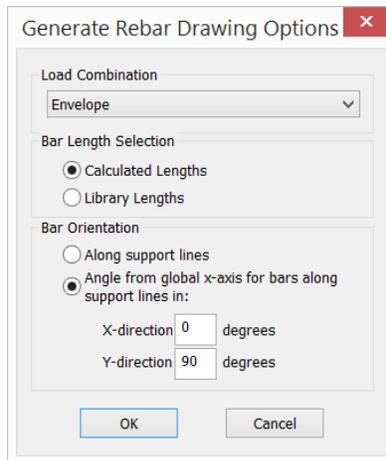

FIGURE 6.8-11 GENERATE REBAR DRAWING OPTIONS
- Once the design of sections is complete, use the menu item **Floor Design | Rebar | Calculated Rebar Plan**  to display the rebar required to meet demand for serviceability, strength or envelope. The dialog box as shown in **Figure 6.8-11** will be displayed.
- The user can select the any of the load combinations defined in the model to view rebar for. Note that when the ACI318 code is selected, no rebar will be generated for serviceability conditions as the code waives temperature and shrinkage reinforcement for soil supported slabs. You may choose the **Bar Length Selection** and the **Bar Orientation**, and then click **OK**. If the orientation of the bars is **Along support lines** the reinforcing is aligned parallel to the support lines even if they are not in the X-Y directions. The selection of an angle generates rebar layouts for those directions. The **Dynamic Rebar Module** calculates the required reinforcement for the direction selected. For this tutorial, specify **Library Length** and to have desirable rebar length and bar orientation along global X and Y axis as shown in **Figure 6.8-11**.